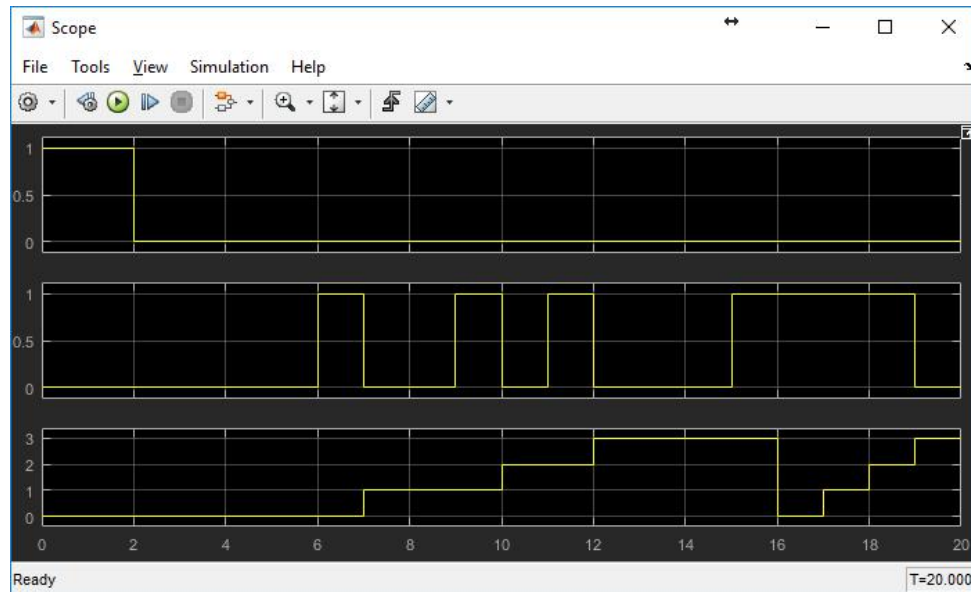

Fig. 11. Scope view.
13. Run simulation by choosing menu **Simulation** => **Run**. The expected result in the Scope window should look like the Fig. 11.